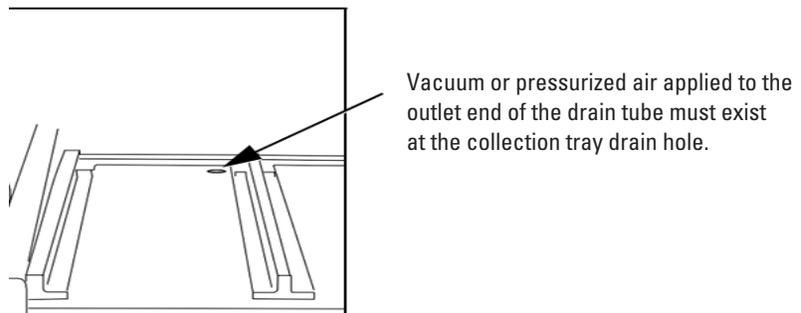

Figure 2-6 Fraction collection tray drain hole
1. Test the fraction collector drain by connecting a vacuum or air supply source to the outlet end of the drain tube. Then, verify the presence of such vacuum or air supply source on the drain (Figure 2-6).